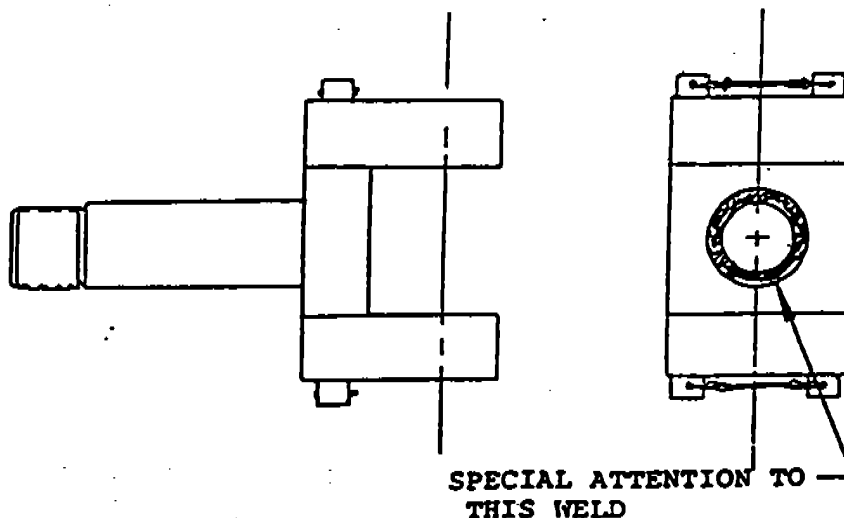

FIG. 1
The recommended direction of travel for offset type chains with fixed barrels is open end forward or open end pointing in direction of travel (see figure 1). This is true for conveyor chains, elevator chains or drive chains where the driving sprocket is less in diameter than the driven sprocket. To fully understand why this is true, we must look at the action of the chain on the sprocket. We will look at two adjacent links about to contact the sprocket and identify them as the leading link and trailing link. As soon as the leading link has seated on the sprocket tooth, the trailing link must also start to do the same. This action of the trailing link preparing to seat on the next tooth causes nearly all the sprocket wear. As the leading link is carried around the sprocket, the trailing link will articulate downward through an angle determined by the number of teeth on the sprocket. As the trailing link does this, it must pivot about its connection with the leading link. Since the chain is operating open end forward, it will be connected through the chain pin. The pin will rotate inside the barrel and no movement of the barrel will be required. Since the barrel does not move, once seated on the sprocket tooth, no wear will take place on either the tooth or barrel O.D.
1. *Driving sprocket smaller than driven sprocket. The recommended travel for this arrangement is open end forward (See figure 1). The reason being, as the chain enters the drive sprocket it will undergo its maximum articulation and load in the system. As explained before, with the chain operating open end forward all movement will occur on the pin and not on the barrel. It is true the same load will be experienced as the chain comes off the driven sprocket and the link will pivot on the barrel, but because the articulation is less the wear would be less than would be at the drive sprocket if the travel were reversed.*
A review of the Corkscrew owner's manual will show that an annual inspection of ALL hitch yokes is recommended. The hitch yokes must be removed from the coaches in order to inspect them properly. The entire yoke assembly must be subjected to a magnetic particle or dye penetrant inspection with particular attention given to the weld area shown in Fig. 1.